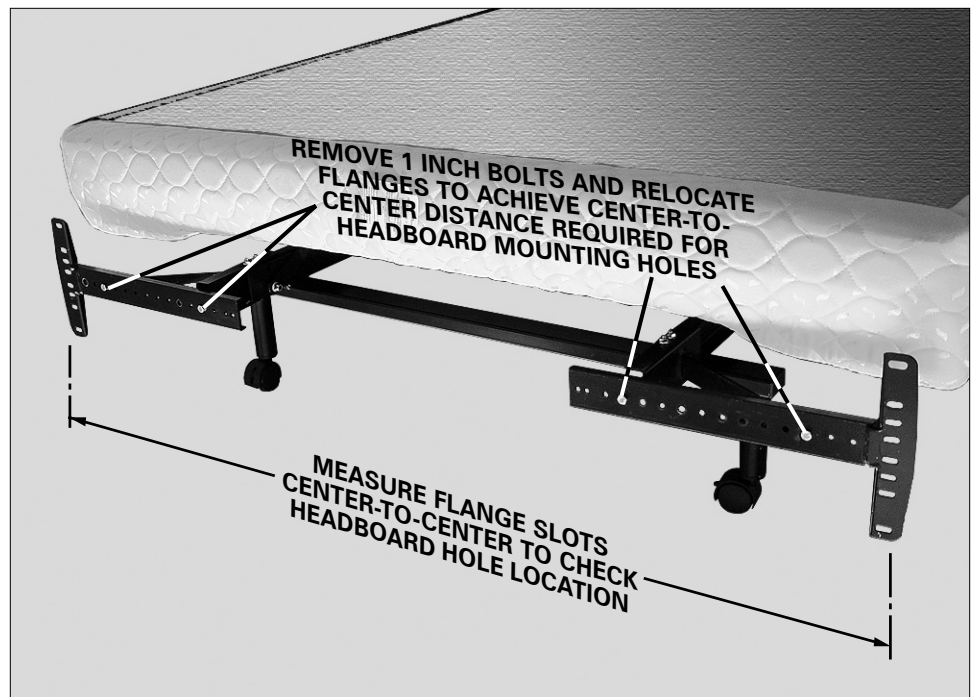

FIGURE 12: Headboard bracket measurement and adjustment to accept headboard.
- g. Measure the center-to-center distance between the mounting slots of the headboard bracket flanges (**FIGURE 12**).
- h. If bracket flange adjustment is required to accept the headboard, remove the 1 inch headboard bracket flange bolts and move flanges side-to-side for the adjustment (**FIGURE 12**). Reinstall bolts and tighten.